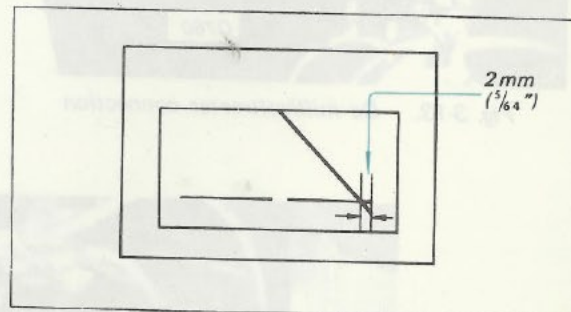

Fig. 3-12. Tuning meter calibration
3. Precisely tune the receiver to the signal and adjust RT301 (see Fig. 3-10) to obtain the meter pointer within 2 mm ($\frac{5}{64}$ ") left of its maximum indication as shown in Fig. 3-12.